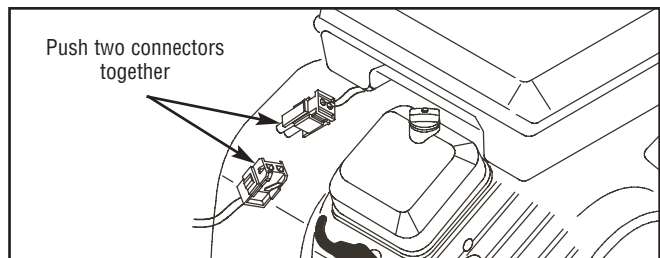

Figure 12 — Fuel Select Solenoid Connection
4. Connect the fuel select solenoid by joining the two-pin electrical connector shown in Figure 12.